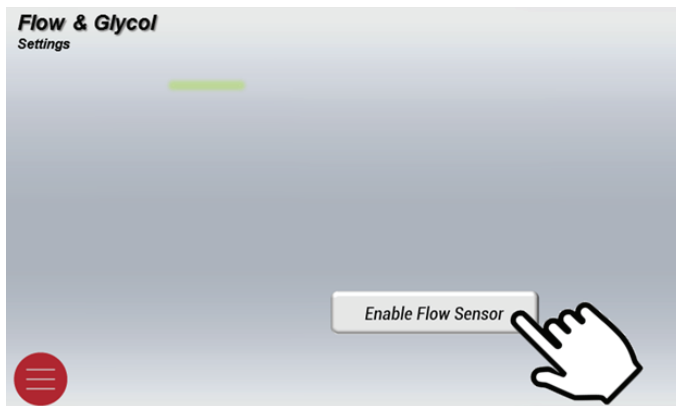

Figure 49. Enable Flow Sensor
4. You will see a "Enable Flow Sensor" button, press to enable. See **Figure 49**.